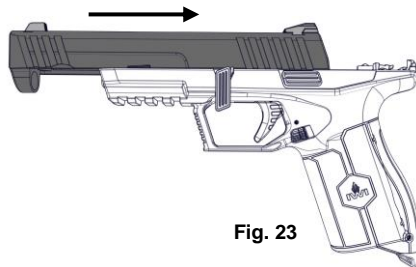

Fig. 23
3. Mount the slide on the frame and move the slide to the rear so that the rails on the frame align to the rails on the slide. Move the slide all the way to the rear and lock it into place with the slide lock lever (Fig. 23).